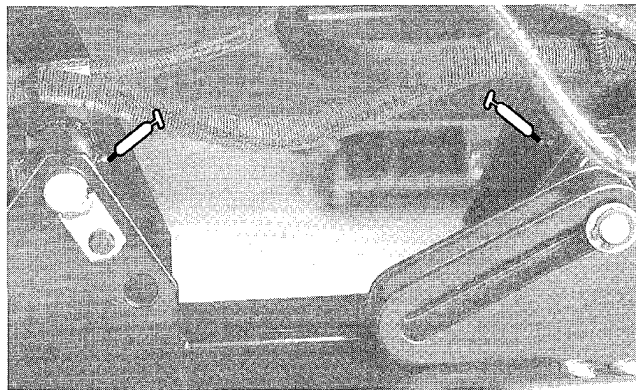
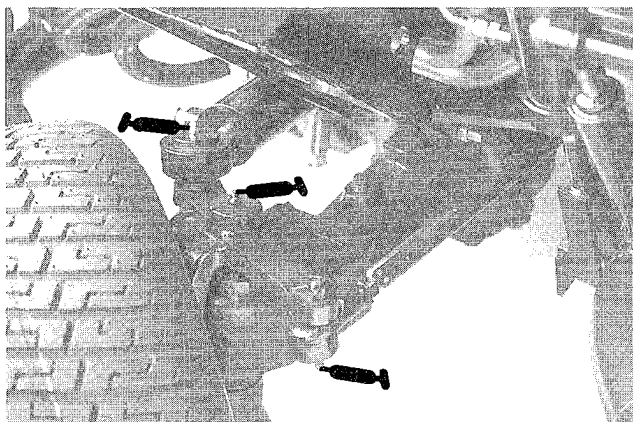

Figure 28
Figure 27
(Fig. 27); Front lift cylinders (2), (Fig. 28); Front lift